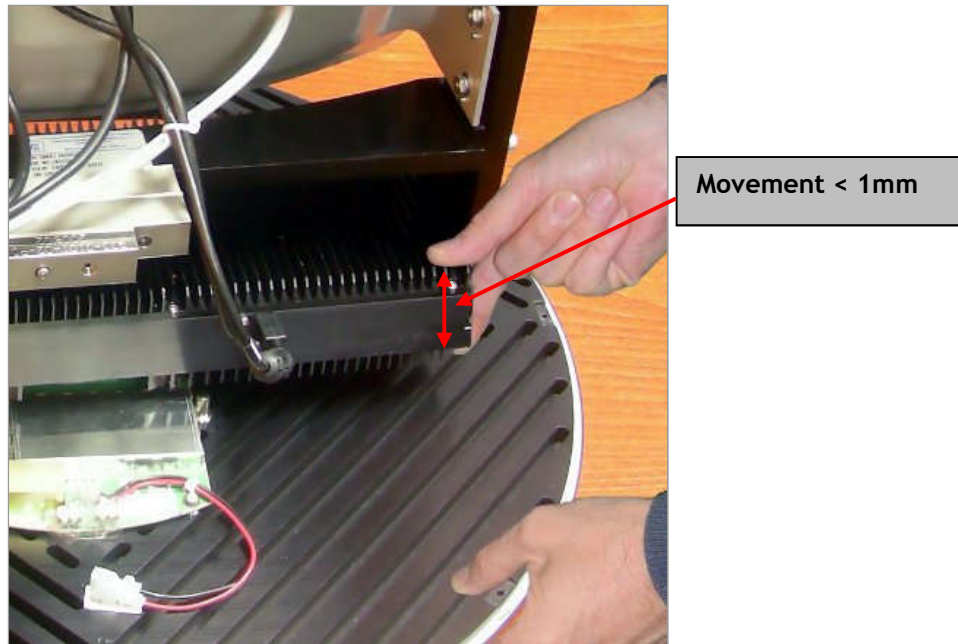

Figure 31 - Verify for loose payload (R5, R5D shown)
- Step 7 Verify for a loose payload. Hold the payload as shown in Figure 31 and gently try to move it up and down. The maximum up and down movement should be less than 1mm. In the event of a loose payload, please contact FLIR Radars Customer Support for repair instructions.